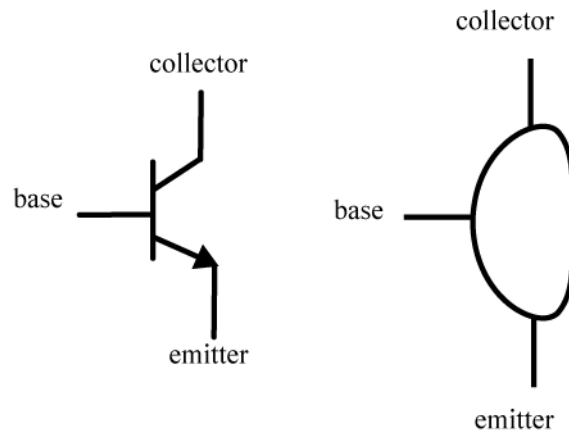

Figure 4. Circuit symbol for an npn BJT (left) and physical device (right).
1) The NPN BJT is represented by the symbol shown in Figure 4, and it has three terminals. If you hold the BJT with the flat part to the right, then the collector is on top, the base is in the middle, and the emitter is on the bottom.